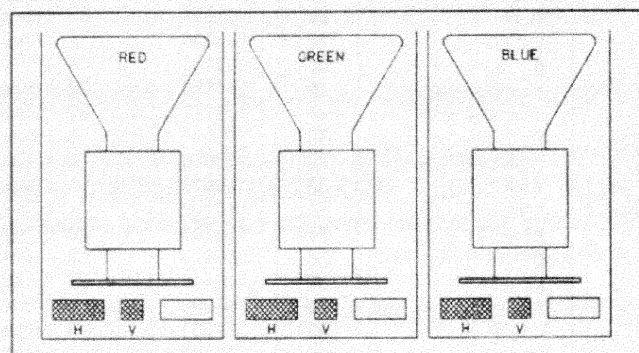

FIGURE B-1. Yoke Plug Locations
c) **Locate the Yoke Plugs.** The horizontal and vertical yoke plugs are located at the top rear of the projector, slightly below the CRT necks. See Figure B-1 below.